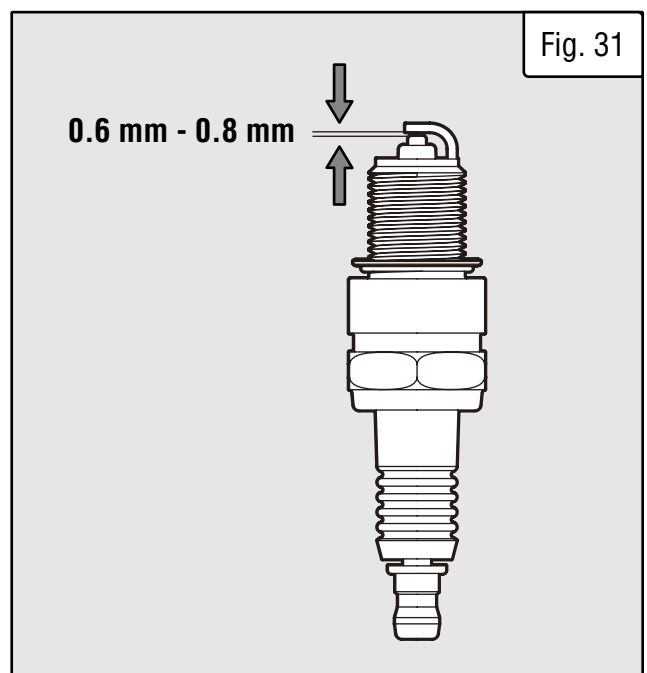

Fig. 31
5. Measure the plug gap with a spark plug gap gauge. The gap should be 0.6 - 0.8 mm (0.024 - 0.031 in) (Fig. 31). Carefully adjust the gap if necessary.